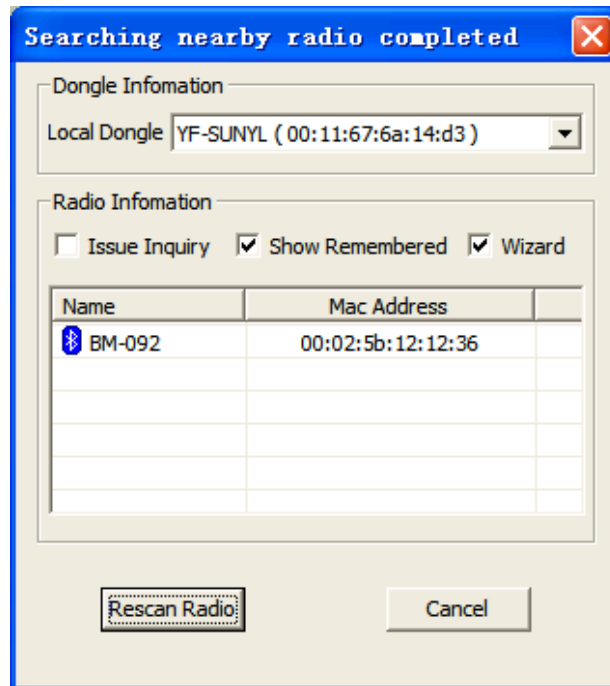

Figure 3-15
(2). Select “Issue Inquiry” and “Show Remembered” in the interface as shown in Figure 3-15. The following operations are the same as the first method.